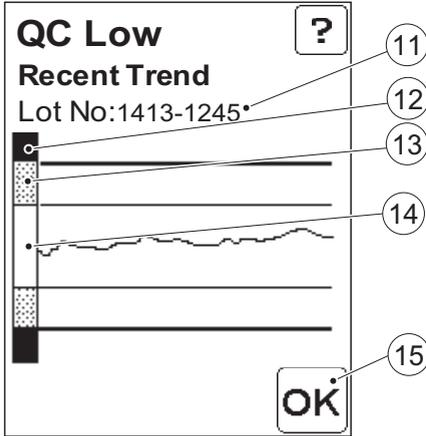

FIGURE 9-13
- a) To browse through the available records, use the scroll bar arrows (4).
- b) Depending on the operator’s user level, comments can either be added, deleted or changed or just viewed, by pressing the Comment input button (8). See *6.1.3 Entering Comments*.
- c) To view a graphic presentation of the the most recent QC tests at the defined concentration level, press the Statistics button (9). *FIGURE 9-13* will be displayed.